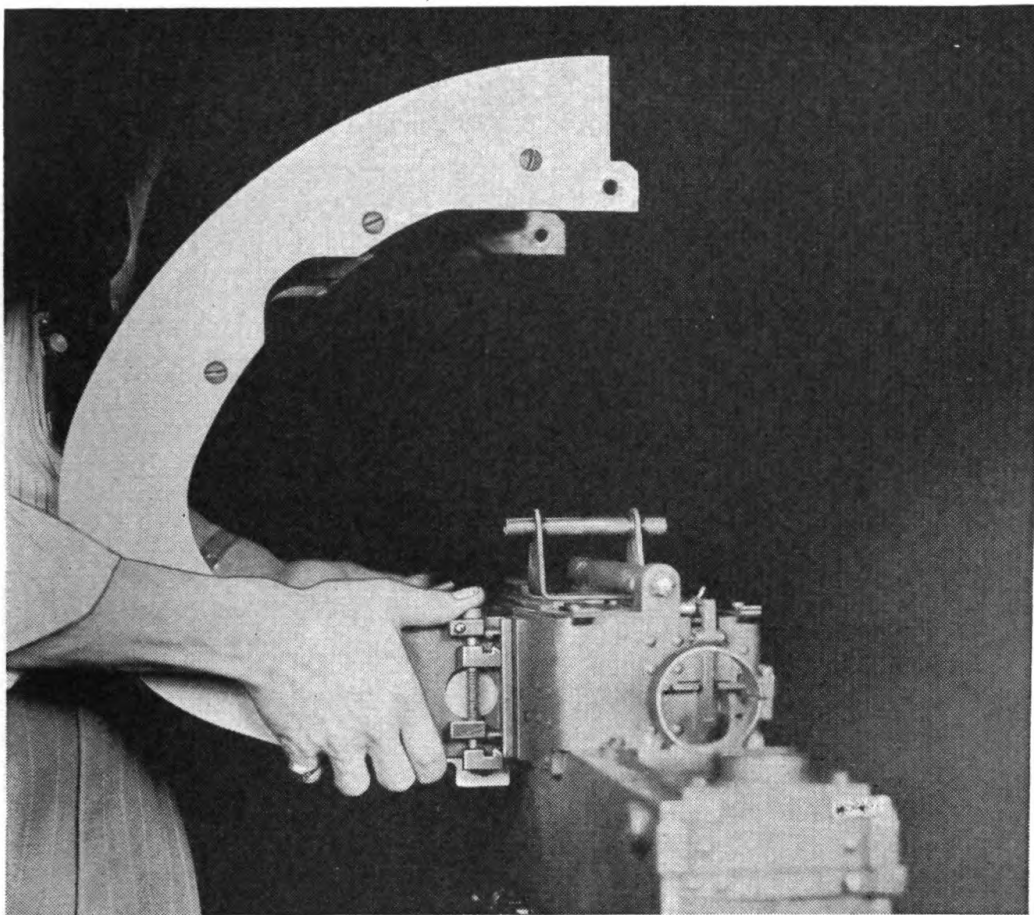

FIGURE 12.—Removing left half of 30-round magazine.
(5) Depress the spring latches, and pull away the left half (fig. 12).